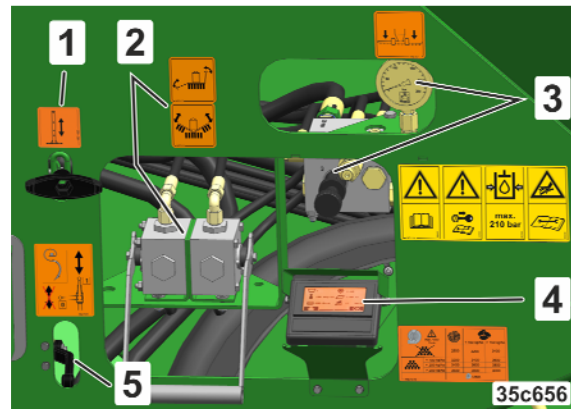

Fig. 40
- Cable pull for the parking support (Fig. 40/1)
- Control elements for implement folding (Fig. 40/2)
- Control elements for the section pressure adjustment (Fig. 40/3)
- In conjunction with ISOBUS, the TwinTerminal (Fig. 40/4)
- Control elements for the wheel mark eradicator folding (Fig. 40/5)